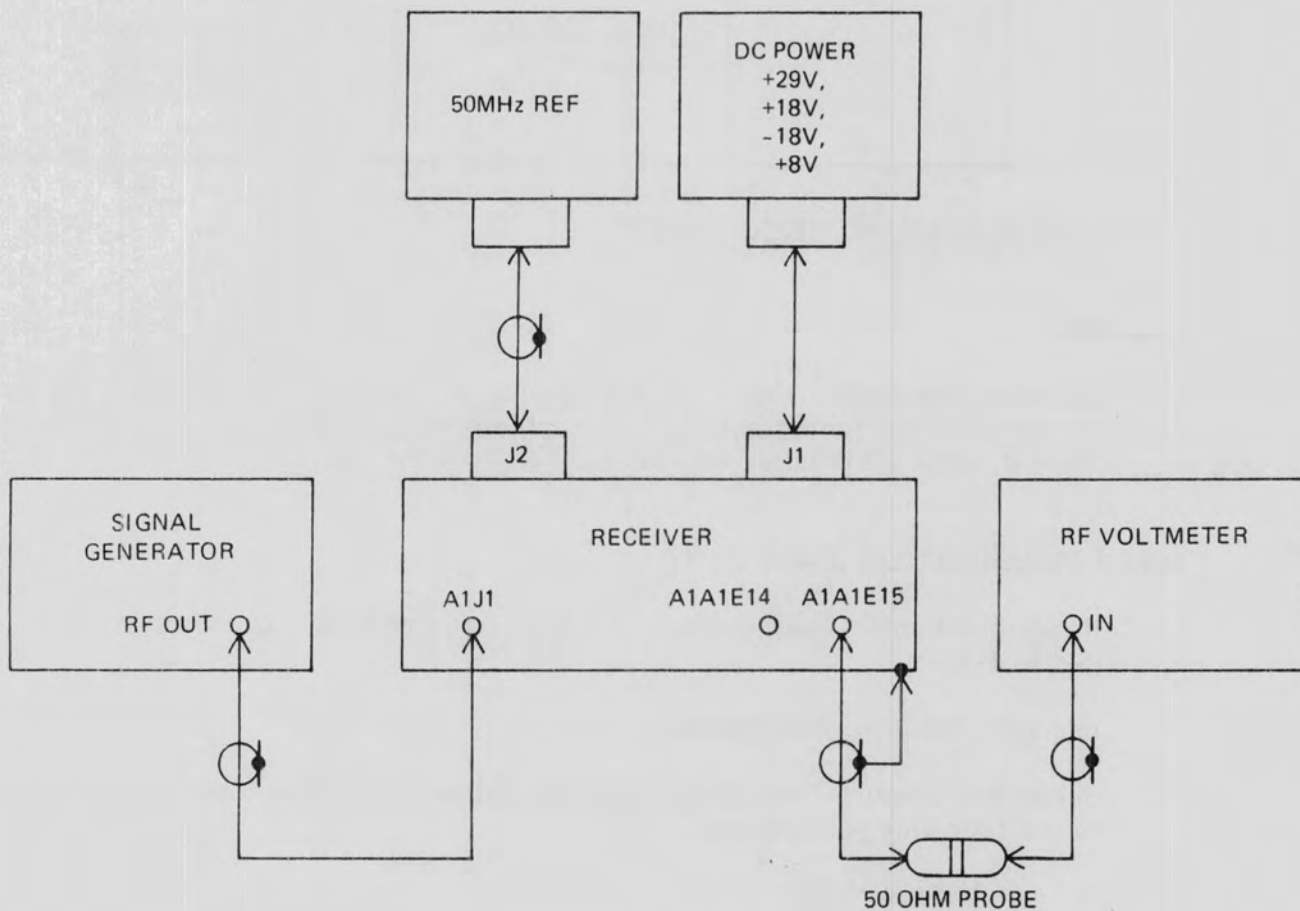

Figure 4-8. Input Preselector Alignment Equipment Setup
1. Remove the RF Tuner cover and connect the receiver as shown in **Figure 4-8**.